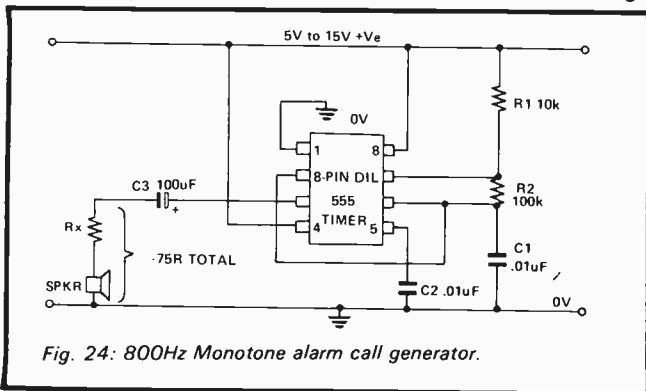

Fig. 24: 800Hz Monotone alarm call generator.
Fig 24 shows the connections for making an 800Hz monotone alarm-call generator. The circuit can be used with any supply in the range 5 to 15 volts, and with any speaker impedance. Note, however, that  $R_x$  must be wired in series with speakers having impedance less than 75Ω, and must be chosen to give a total series impedance of at least 75Ω, to keep the peak speaker currents within the 200mA driving constraints of the 555. The available alarm output power of the circuit depends on the speaker impedance and supply voltage
Fig. 24 a, b, c, d: Monotone alarm activated by dark (2), light (b), under-temperature (c), or over-temperature (d).